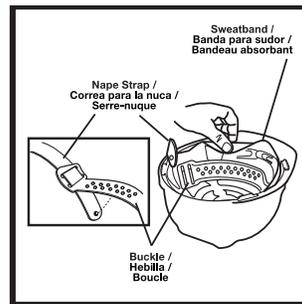

Figure 13
- Lace nape strap through plastic buckle and press button into hole estimated to your head size. **(See Figure 13)**